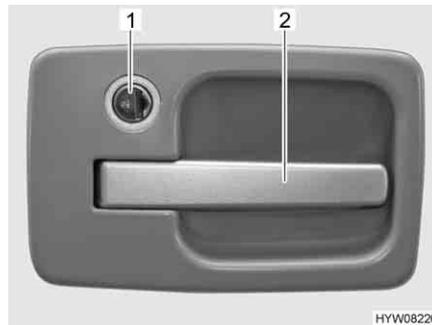

Fig. 25 Door lock of conversion door, outside
- Insert the key into the locking cylinder (Fig. 25,1) and turn towards the "U" symbol. The door lock is unlatched.
- Pull on the handle (Fig. 25,2). The door is open.
- Insert the key into the locking cylinder (Fig. 25,1) and turn towards the "L" symbol. The door lock is locked.